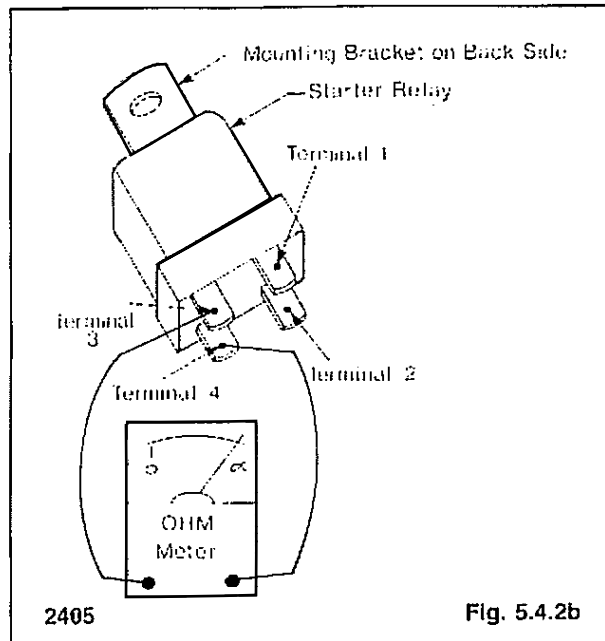

Fig. 5.4.2b
6. Disconnect jumper leads from starter relay 1 terminal and 2 terminal (Fig. 5.4.2b).
7. Measure the resistance with an ohmmeter across the starter relay 3 terminal and 4 terminal (Fig. 5.4.2b).